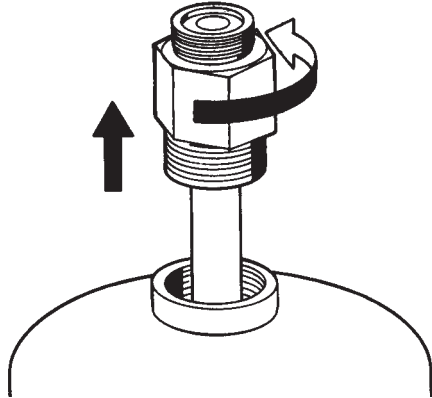

FIGURE 5-5
- a. Remove the tank adaptor/tube assembly from the tank fill opening. Visually inspect the tank adaptor to determine bursting disc is in place and that the silver side is away from the tank. See Figure 5-5.